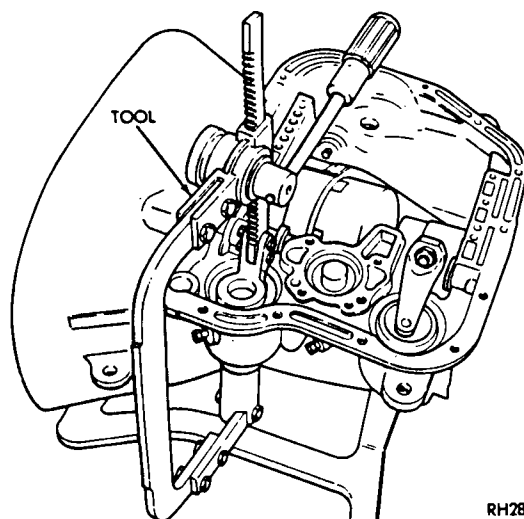

Fig. 8—Compress Kickdown Servo Spring
- (1) Compress kickdown servo spring by using the engine valve spring compressor Tool C-3422A, then remove snap ring (Fig. 8).
- (2) Remove rod guide, spring and piston assembly from the case. Be careful not to damage piston rod or guide during removal.
- (3) Withdraw piston from the transmission case.